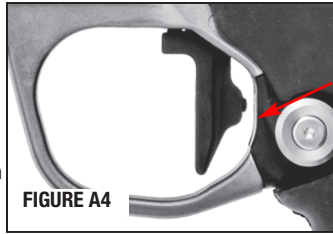

FIGURE A4
- (FIGURE A4) by turning it clockwise (as viewed from the front of the pistol), or to a position where the trigger will not "break" and release the hammer to "fire" the pistol when the trigger is pulled.